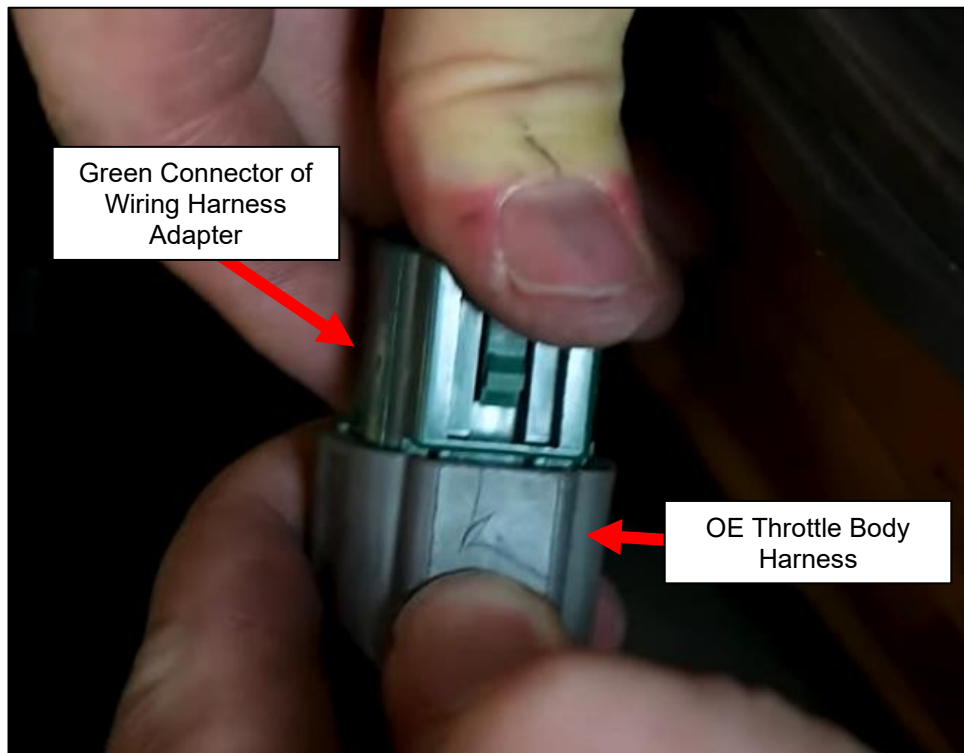

Figure 4
8. Locate the Wiring Harness Adaptor. Plug the **GREEN** Connector of the Wiring Harness Adaptor into the Stock Throttle Body Wiring Harness. *Figure 4*.